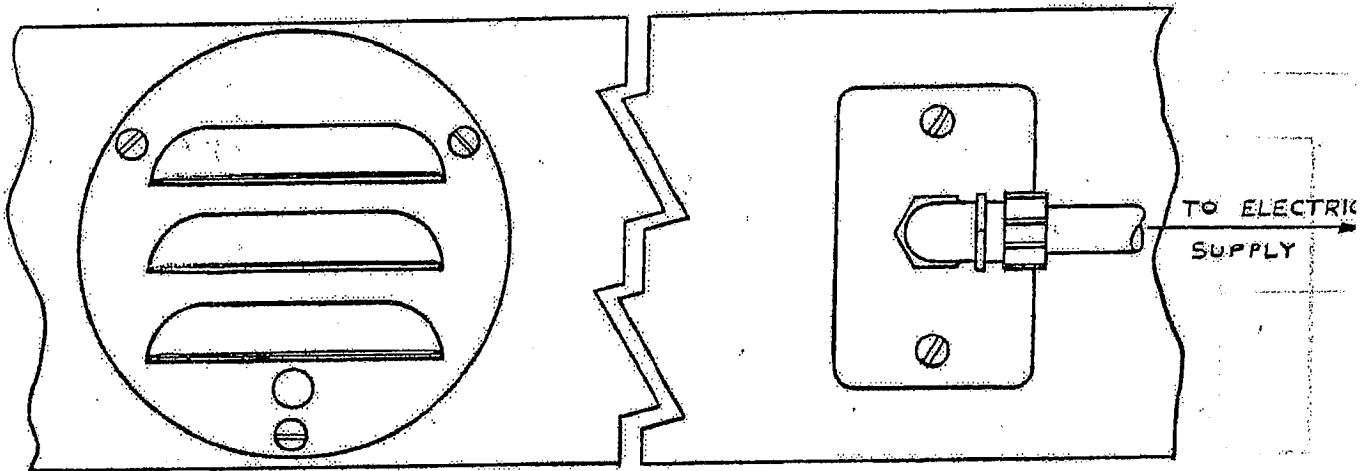
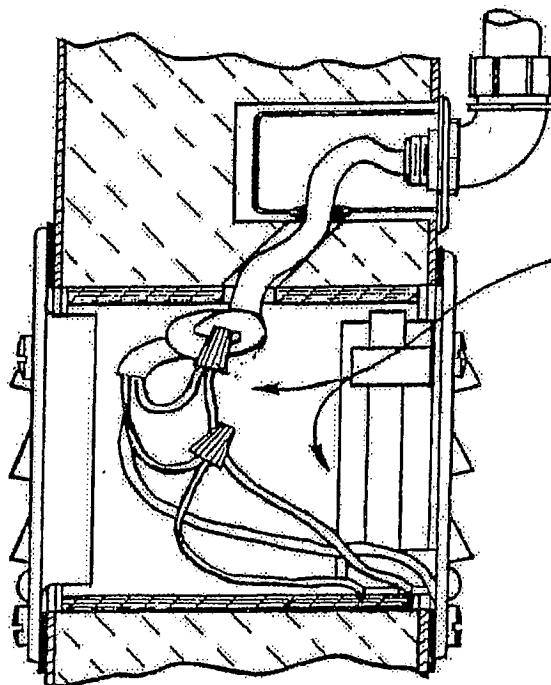

FIG. 3
FIG. 4
6. With the ground screw (in the valve assembly) in the bottom position, place the louver over the valve assembly with the openings facing down and line up the screw holes in the louver, the valve assembly, and the gasket. While holding the parts lined up, place the valve assembly into the sleeve (Figure 3).
7. Spot through the three (3) holes and drill 1/8" hole for #8 sheet metal screws. Drive the three (3) screws and the inside assembly work is completed.
8. On the outside (warm side) of the freezer, assemble the louver, screen, flange, and gasket in the same manner as the inside parts were assembled and fasten with three (3) screws. CAUTION: BE SURE THAT THE WIRING DOES NOT INTERFERE WITH THE OPERATION OF THE VALVE.
9. Complete the electrical connections at the junction box (Figure 4).